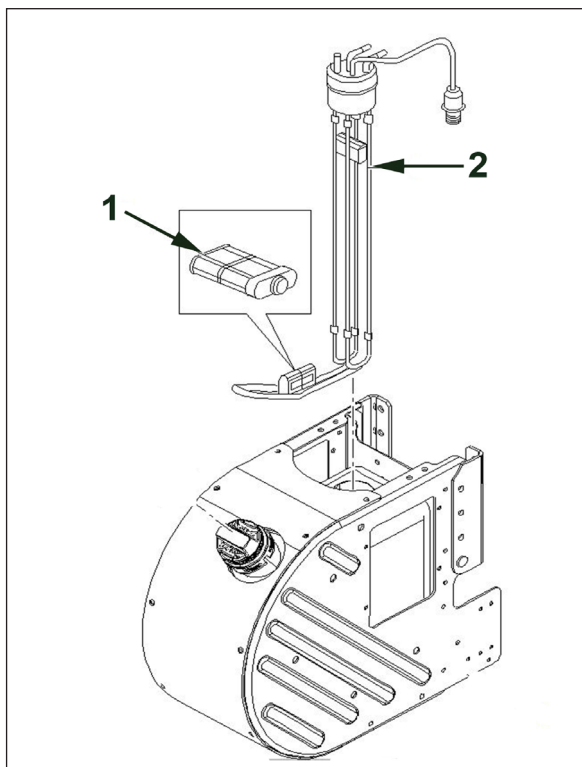

Figure 6.14 - DEF Manifold Filter
1. Remove the DEF heater manifold assembly, item 2 Figure 6.14 from the DEF tank.
2. Remove and replace the DEF heater manifold filter, item 1 Figure 6.14